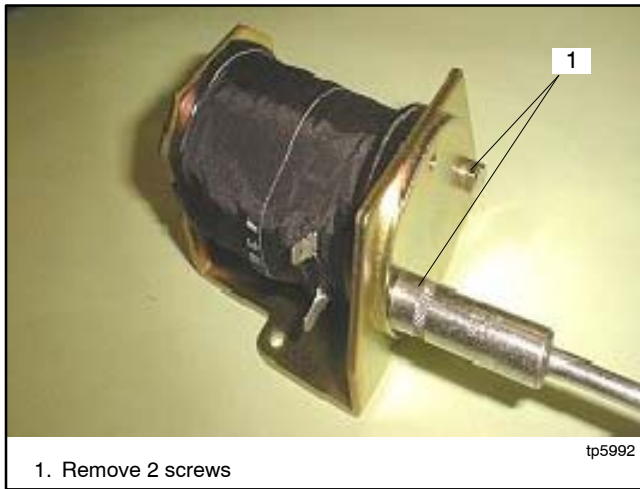

Figure 7-9 Disassembling the Coil Assembly
1. Remove two screws from the core plate. See Figure 7-9.
3. Install the core plate and tighten the two core plate screws. See Figure 7-9.